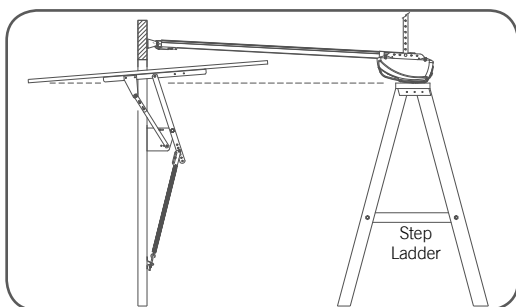

Fig. 15
- Support the powerhead level with the lowest point of the open door (Fig. 15).